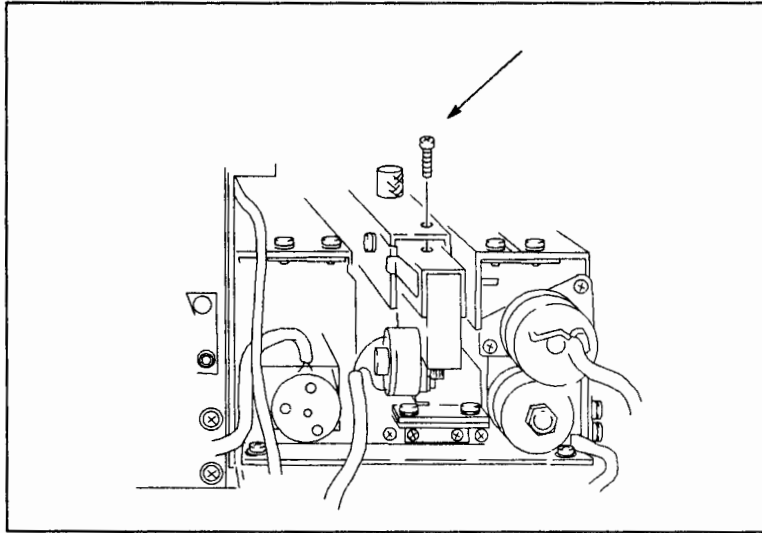

Figure 2-6. "Y" Cutter Lock
- c. Use a small Pozidriv screwdriver to remove the screw. See Figure 2-6.